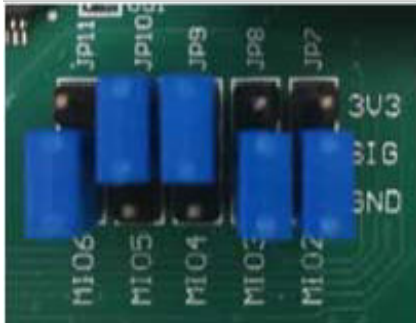

Figure 6. ZedBoard JP7 to JP11 Settings for the SD Card Mode
2. Ensure that the ZedBoard boot configuration jumpers (JP7 to JP11) are set, as shown in Figure 6.